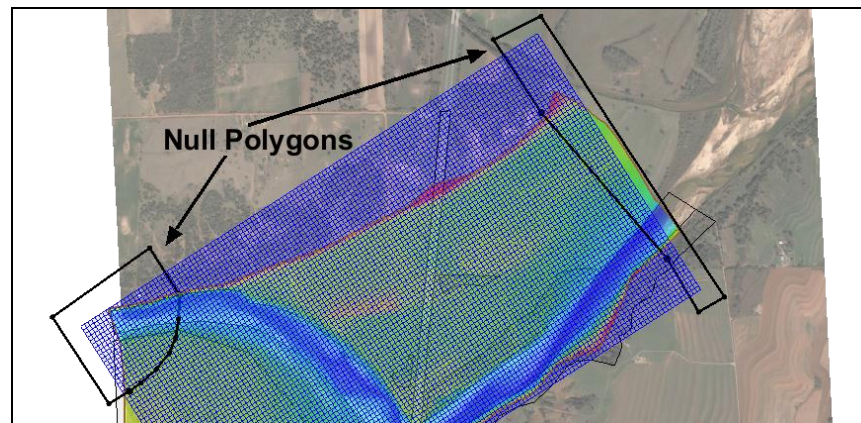

Figure 9 Null polygons
1. Using the **Create Feature Arc**  tool, create an arc starting at one end of the downstream boundary condition arc that encloses all of the grid downstream of the arc and closes on the other end of the downstream boundary condition arc (Figure 9).
2. Repeat this process to define a polygon on the upstream side of the upstream boundary condition as shown in Figure 9.